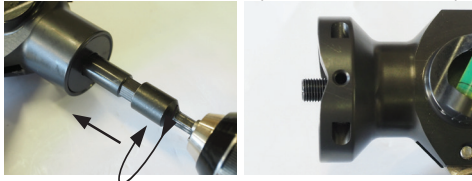

Fig. 3.1 Use your drill to fully extend the cutter end (above right) **BEFORE** cutter installation.
3.1 Extend the Drill Jig's cutter end / thread using your drill. Ensure to fully extend the cutter end (**Fig. 3.1**).